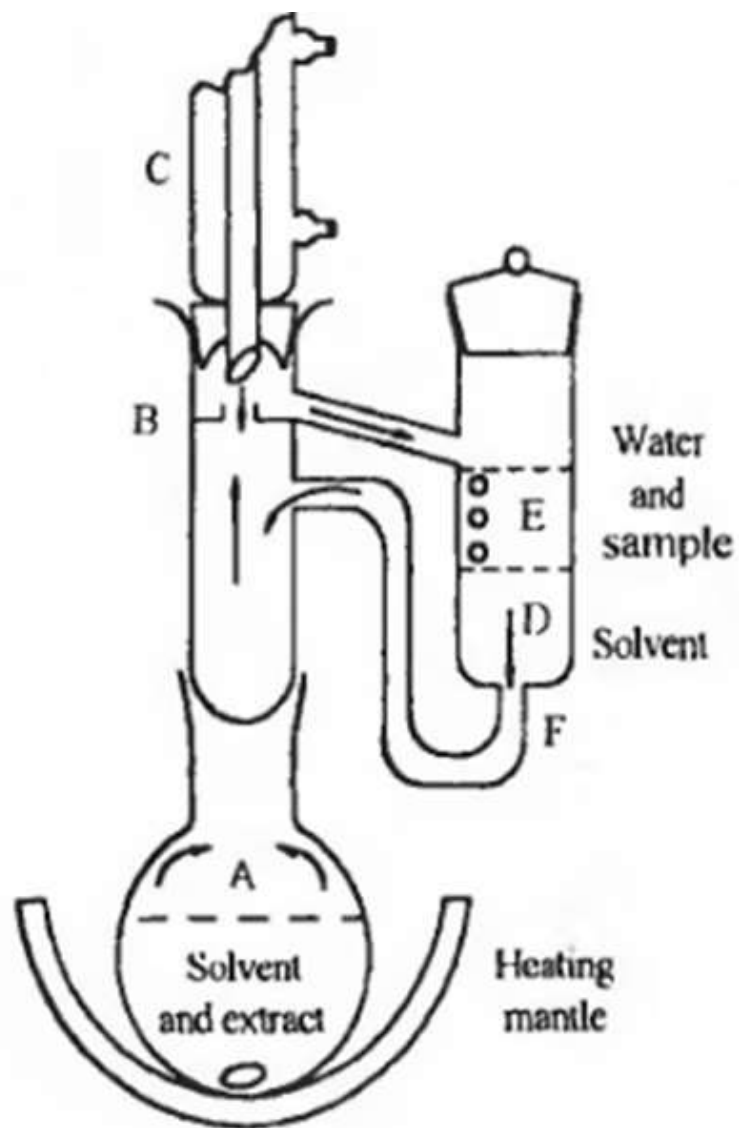

Figure 10-4. A continuous solvent-heavier-than-water extractor.
- ❑ With low D 's, a large volume of extracting solvent is needed. However, it can be the same solvent used over and over. A typical laboratory-scale extractor for use with solvents heavier than water is shown in Figure 10-4.